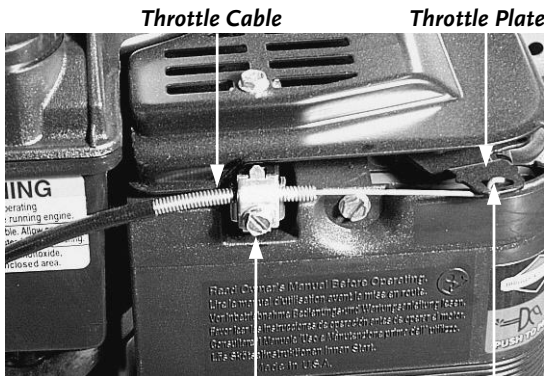

Figure 26 Throttle Cable Clamp "Z"-Bend
1. Loosen the Screw on the Throttle Cable Clamp with a Screwdriver so the Throttle Cable can slide below it. It is not necessary to remove the Clamp (Figure 26).
2. Remove the "Z"-bend end of the Cable from the Throttle Plate (Figure 26).
5. Tilt and place the Handle of the new Throttle Assembly up through the Slot in the Control Panel and fasten with two (2) Screws. Position the Throttle Handle to IDLE/STOP.
7. Place the Z-bend end of the Throttle Cable into the small hole in the Throttle Plate on the Engine. The Throttle Plate is a black Tab that protrudes from the Engine below the plastic Air Filter. It has two (2) holes, and the Cable goes into the smaller hole. Place the Throttle Cable Sheath under the Cable Clamp (Figure 26).